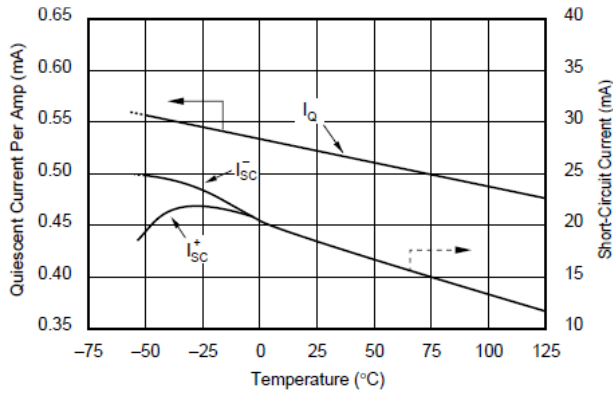

Figure 5-7. Quiescent Current and Short-Circuit Current vs Temperature
- Deleted Figure 5-7, *A_{OL}, CMR, PSR vs Temperature* 8